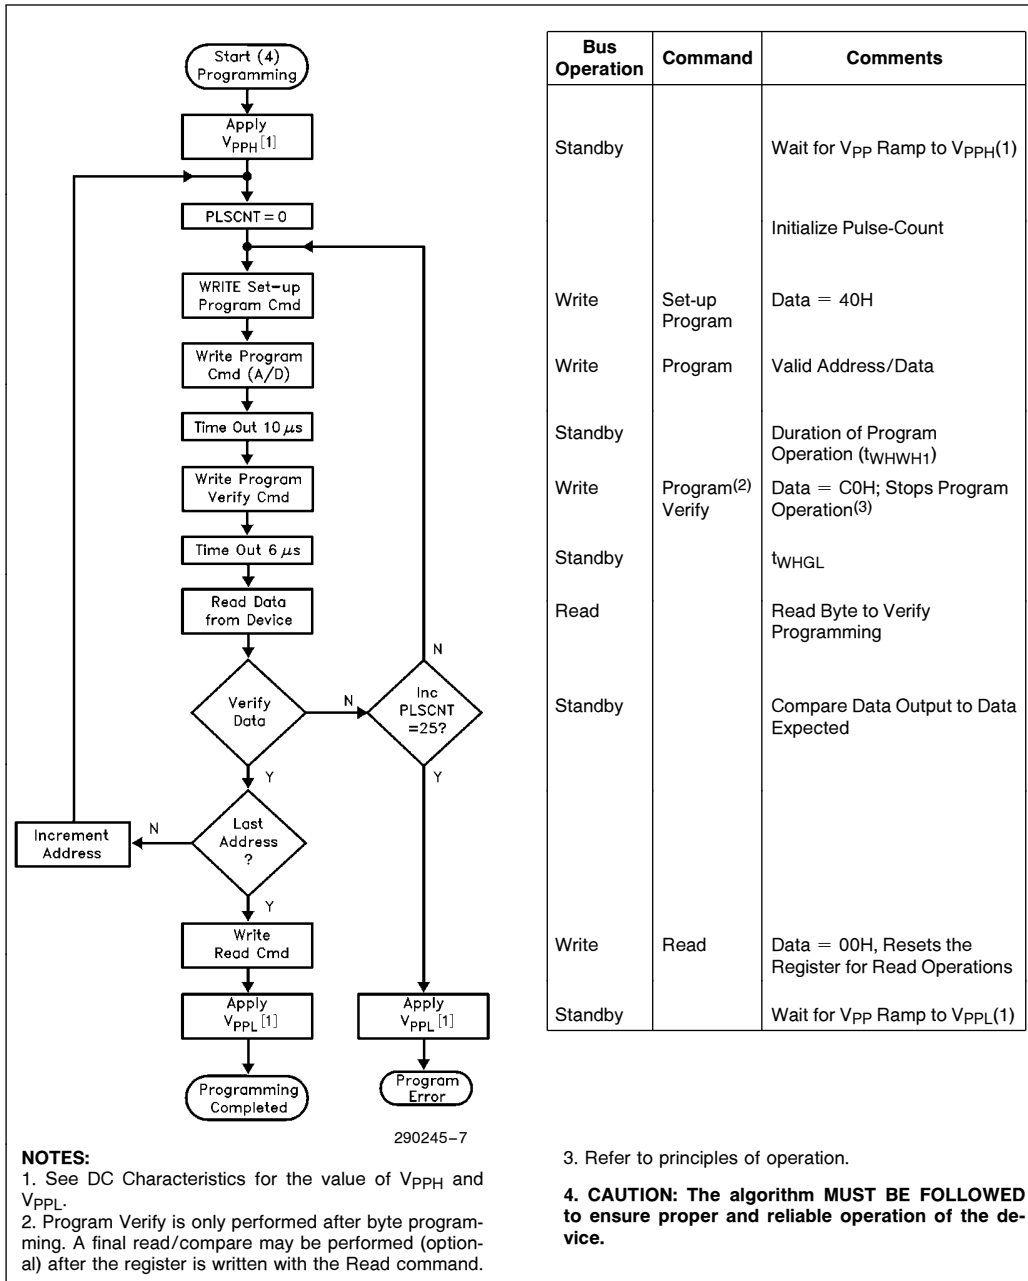

Figure 5. 28F020 Quick-Pulse Programming Algorithm
- Figure 5 illustrates the Quick-Pulse Programming Algorithm.
The 28F020 applies an internally-generated margin voltage to the byte. A microprocessor read cycle outputs the data. A successful comparison between the programmed byte and true data means that the byte is successfully programmed. Programming then proceeds to the next desired byte location. Figure 5, the 28F020 Quick-Pulse Programming algorithm, illustrates how commands are combined with bus operations to perform byte programming. Refer to AC Programming Characteristics and Waveforms for specific timing parameters.
The Quick-Pulse Programming algorithm uses programming operations of 10 μ s duration. Each operation is followed by a byte verification to determine when the addressed byte has been successfully programmed. The algorithm allows for up to 25 programming operations per byte, although most bytes verify on the first or second operation. The entire sequence of programming and byte verification is performed with V_{PP} at high voltage. Figure 5 illustrates the Quick-Pulse Programming algorithm.